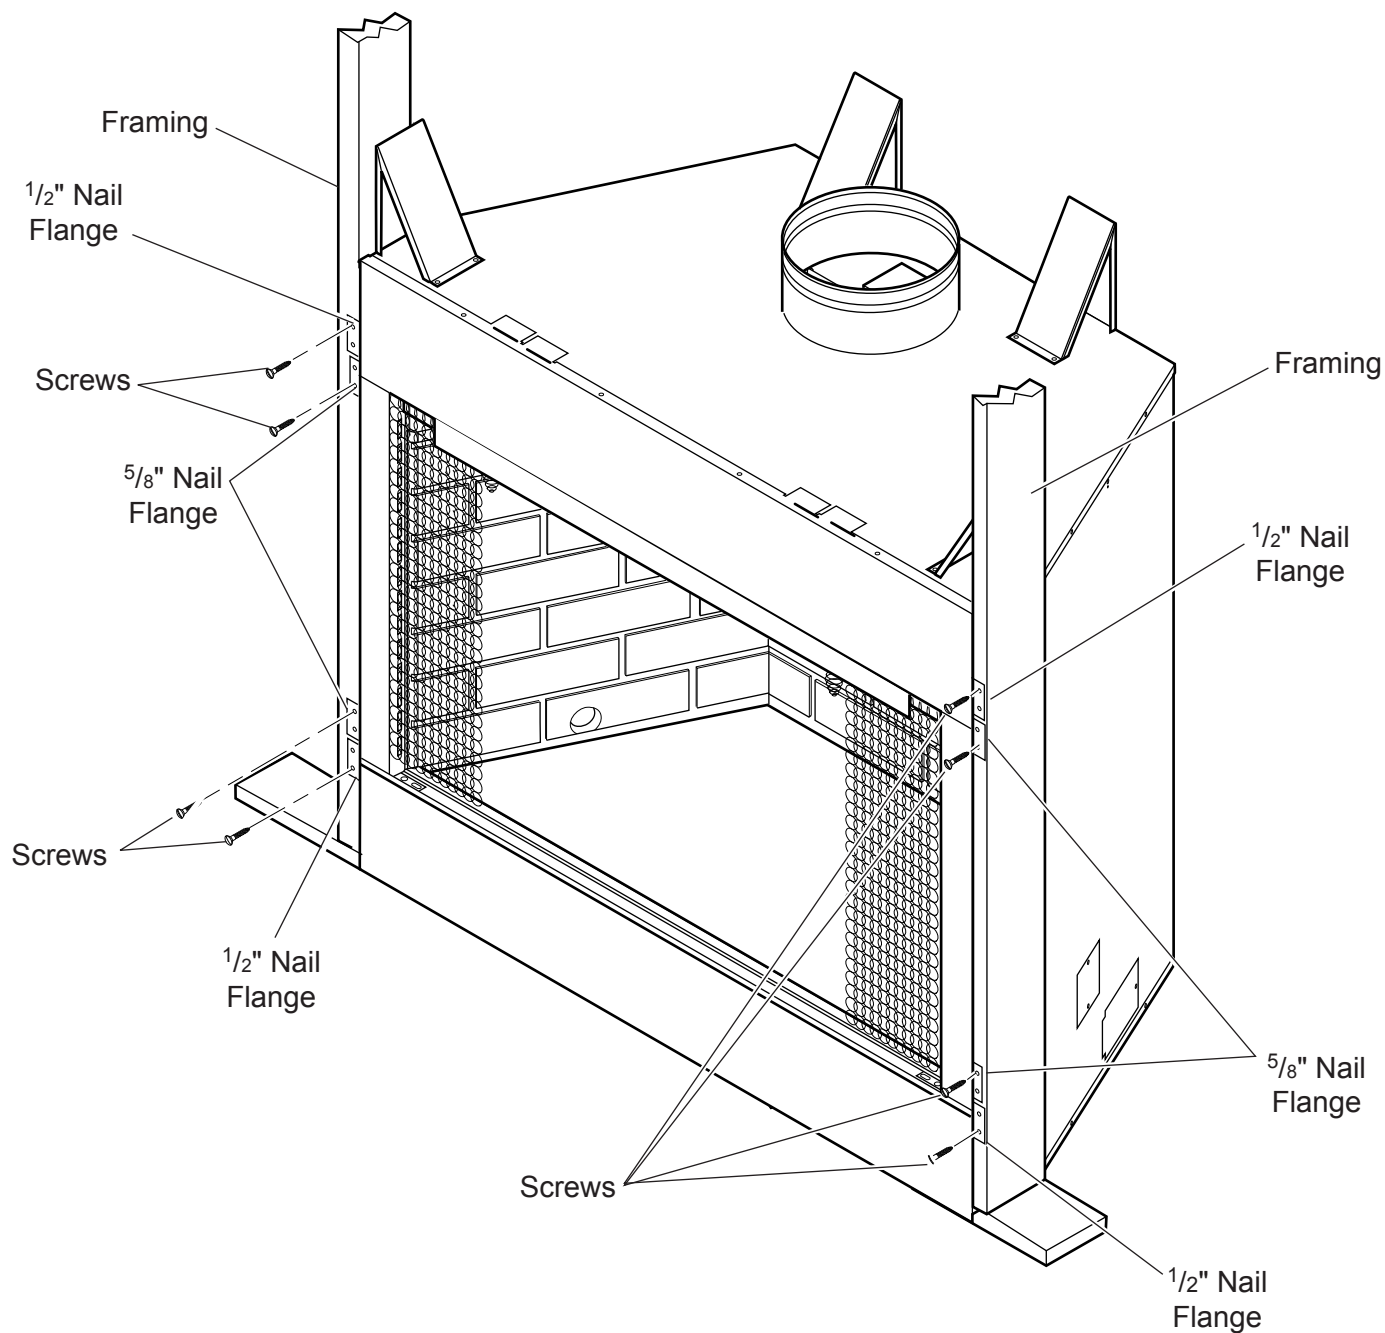

Figure 6 - Securing Fireplace to Floor and Framing Studs
The fireplace must be secured to the floor and/or to framing studs as shown in *Figure 6* . Use two (2) wood screws or masonry/concrete screws to secure fireplace to the floor. Use four (4) screws to attach fireplace to framing. The side brackets are adjustable from 1/2" to 5/8" to accommodate different thickness of material.